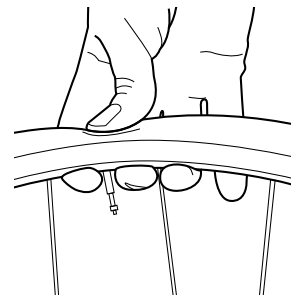

Figure 5. Squeeze the tire to extend the valve
7. With one thumb, hold the tire so that the inner tube valve protrudes from the rim (Figure 5). With the other hand, grasp the head of the Air Rush and ease it onto the inner tube valve.